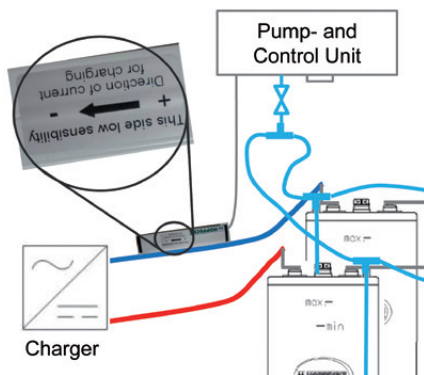

Figure 16: Arrangement of current sensor
- The arrow printed on the current sensor must show towards the charging device (refer to Figure 16).